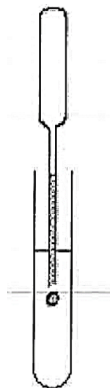

Fig. 2.1
- 9 Very gently, by squeezing on the Pasteur pipette, introduce one drop of the coloured liquid into the centre of the decanted liquid prepared in step 7 (Fig. 2.1). Be careful not to disperse the coloured liquid with any sudden squeezing of the Pasteur pipette. Withdraw the pipette slowly.